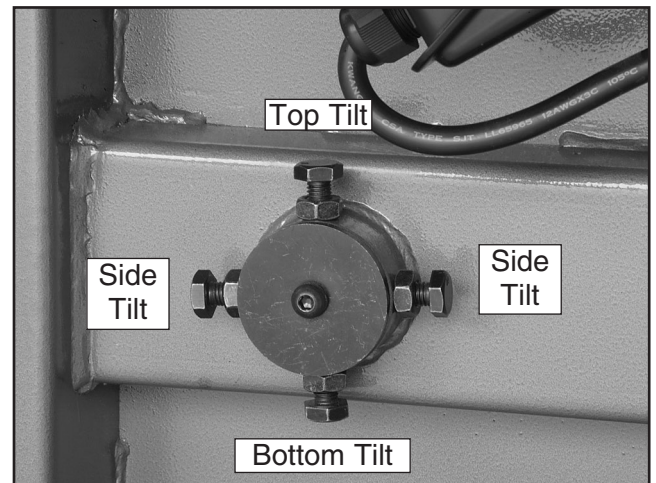

Figure 68. Lower wheel adjustment control.
- Adjust the tracking knob to get both wheels parallel. If the wheels won't go parallel to each other, then move the lower wheel at the adjustment hub (**Figure 68**) so they line up.